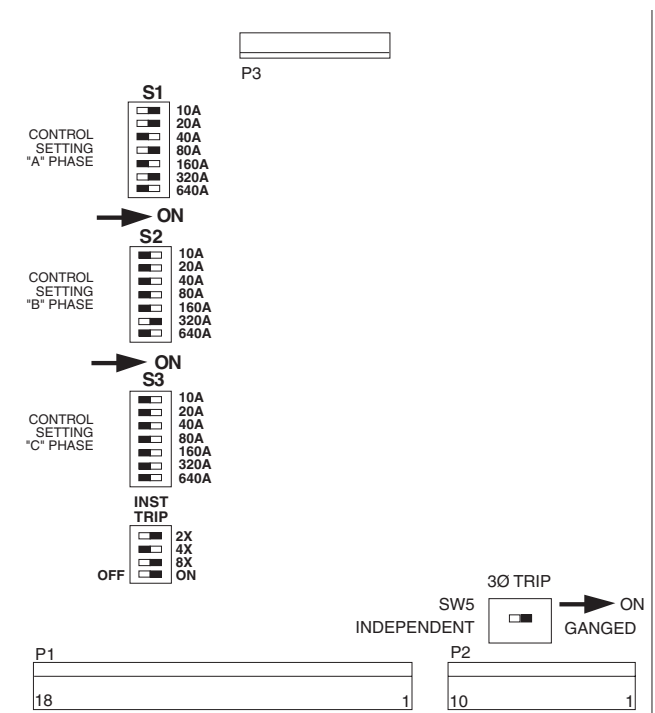

Figure 3.
1. Refer to Figure 3 and locate the three-phase trip toggle switch, which is in the lower right corner of the control board. Place this toggle switch in the ganged position.